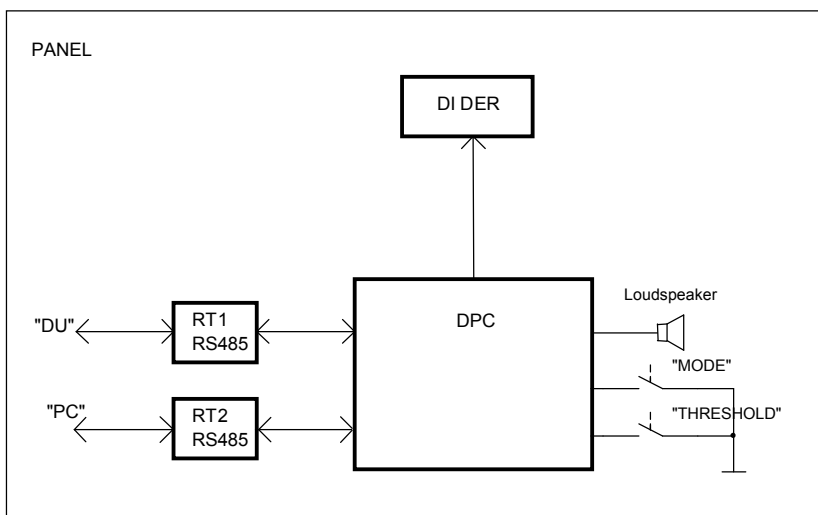

Figure 4 – Structure chart of the panel
1.4.3.1 The structure chart of the panel is illustrated in Figure 4. The panel consists of the digital processing circuit (DPC), the digital indicator of measured DER with LED indicators of measurement unit (DI DER), the loudspeaker, the THRESHOLD and MODE buttons, two receivers-transmitters RT1 RS485 and RT2 RS485 of the RS485 interface. The DPC is developed on the basis of the 16-bit microcontroller of the MSP430 series.